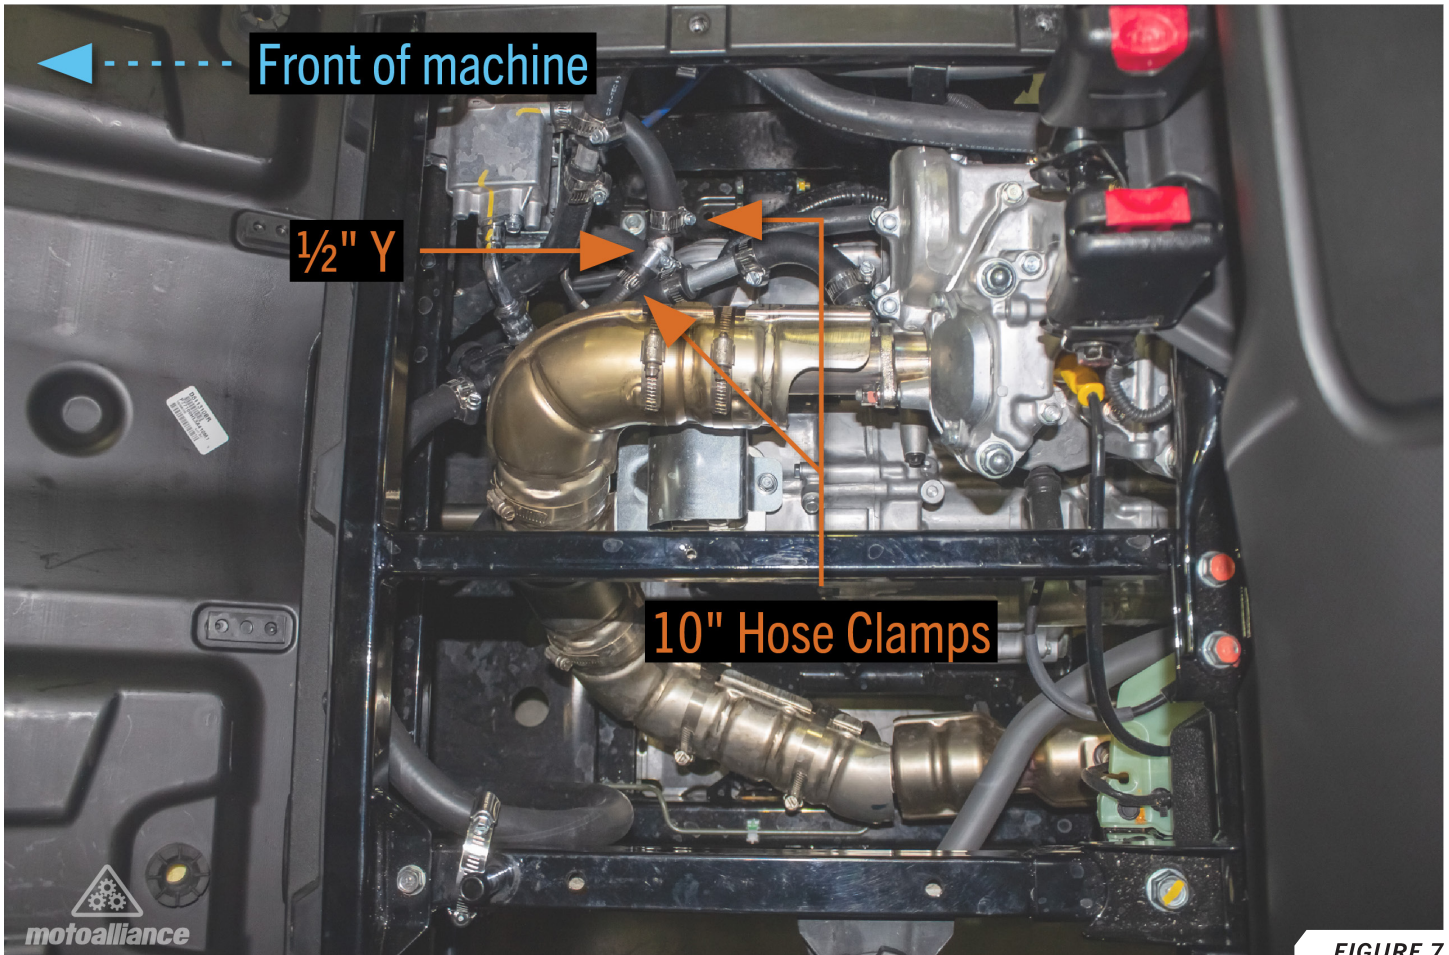

FIGURE 7
15. Take the radiator hose cut in the previous step and insert a 1/2" Y with the branch pointing toward the engine, securing using two #10 hose clamps. **FIGURE 7**